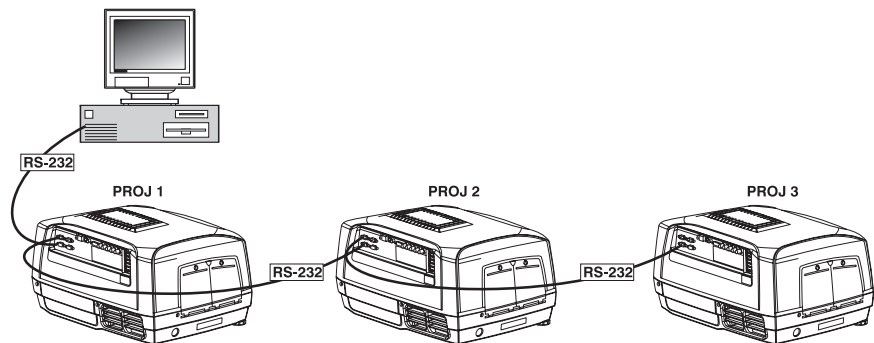

Figure 2.17. RS232 Network
► **RS-232 NETWORK:** If you want to connect multiple projectors in a network with serial communication, connect the controlling source to the RS232 IN connector of the first projector in the network. Then take another serial communication cable and connect one end to the RS232 OUT connector and the other end to the RS232 IN connector of the next projector. Continue this pattern of connection with all projectors in the network. The last projector in the network will only have a connection to the RS232 IN connector. See Figure 2.17.